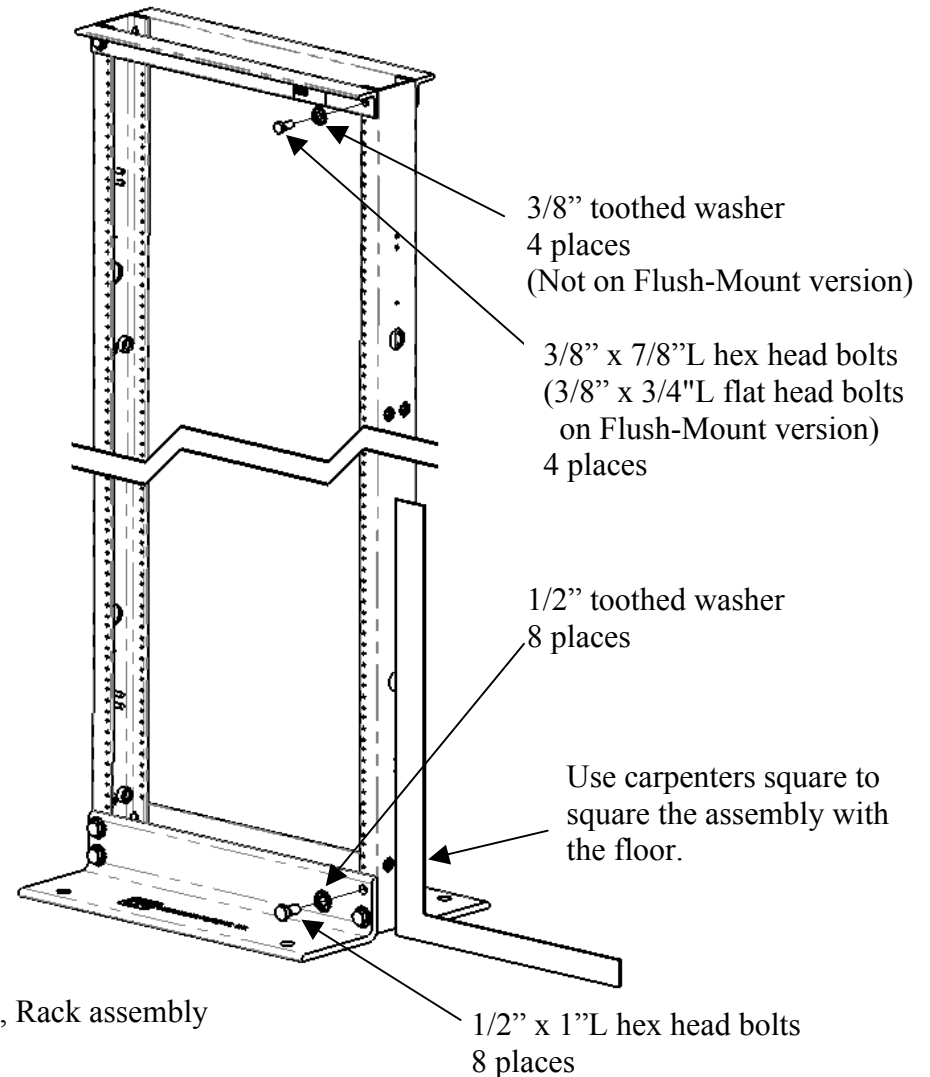

Fig. 1, Rack assembly
- 1) Assemble the rack, as shown in figure 1, lying on the floor. Do not tighten the bolts yet.